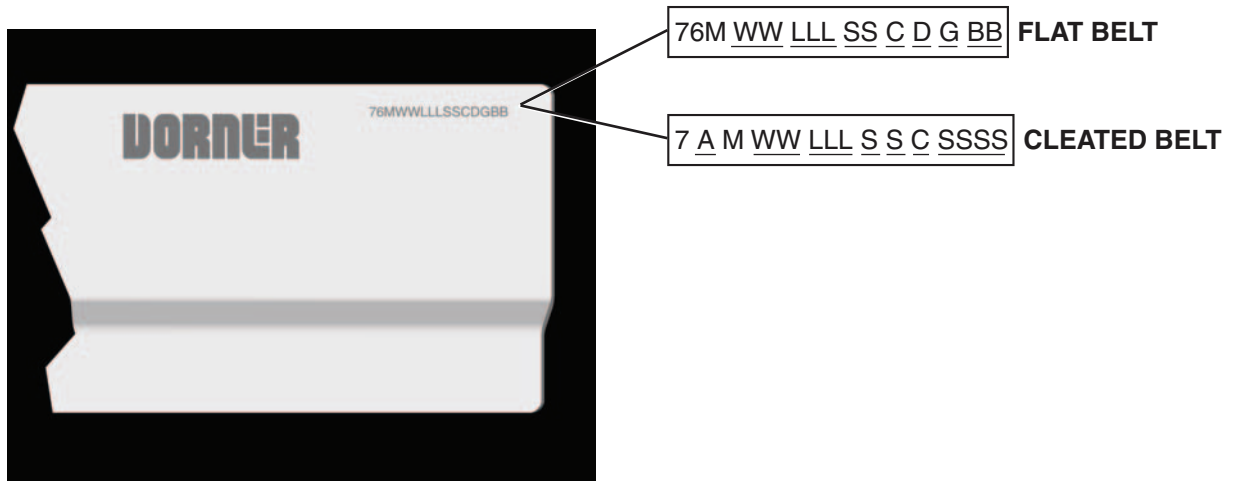

Figure 98
Refer to model number on the conveyor frame (**Figure 98**). From the model number determine the conveyor width (WW), length (LLL), drive/tail types (A) and belt type (BB). Use data to configure belt part number as indicated below. *Add “V” for v-guided belts.
Refer to model number on the conveyor frame (**Figure 98**). From the model number determine the conveyor width (WW), length (LLL), cleat type (C) and cleat spacing (SSSS). Use data to configure belt part number as indicated below. *Add “V” for v-guided belts.